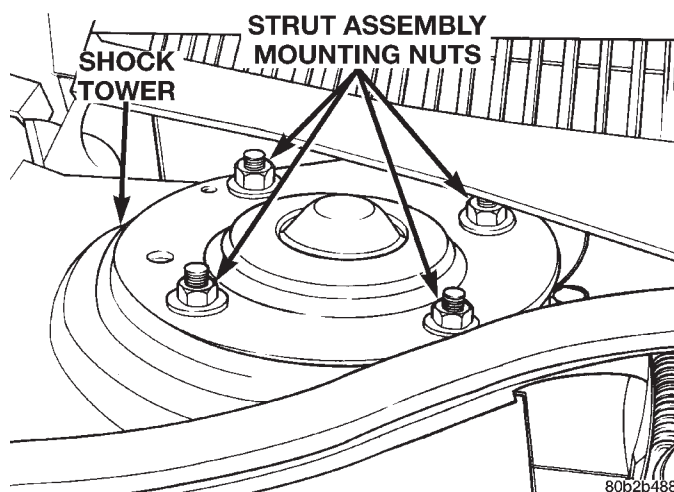
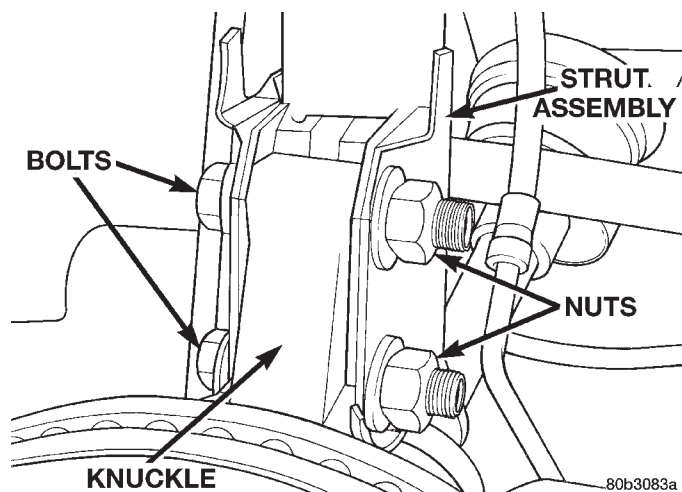

**Fig. 49 Strut Assembly Upper Mounting**
**Fig. 54 Strut Assembly To Steering Knuckle Attaching Bolts**
(1) Remove the 4 strut assembly upper mount to strut tower mounting nut and washer assemblies securing the right front strut in place (Fig. 49).
(8) Remove the 2 strut assembly to steering knuckle attaching bolts (Fig. 54).
(9) Install right front strut assembly into shock tower. Install the 4 strut assembly upper mount to shock tower attaching nuts (Fig. 49). Tighten the 4 strut mount to strut tower attaching nuts to a torque of 45 N·m (33 ft. lbs.) torque.
(10) Position steering knuckle into strut assembly.
(11) Install the strut assembly to steering knuckle attaching bolts (Fig. 54). Install nuts on attaching bolts. Tighten the strut assembly to steering knuckle attaching bolt nuts to a torque of 203 N·m (150 ft. lbs.).